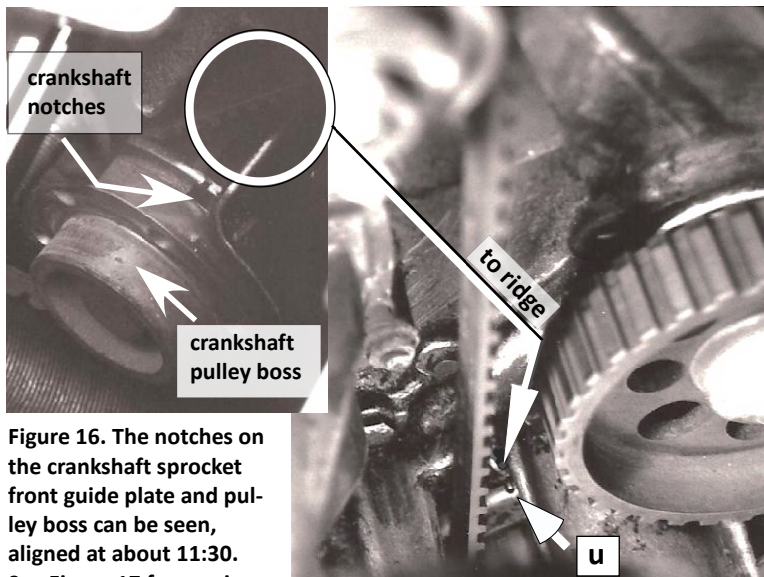

Figure 16. The notches on the crankshaft sprocket front guide plate and pulley boss can be seen, aligned at about 11:30. See Figure 17 for precise alignment.
10. As shown in Figure 16, the notch (deep squarish cut) on the **crankshaft pulley boss** and the notches (small u shape) on the **crankshaft sprocket front and rear guide plates** turn together and are at about the 11:30 position, aligned roughly with the lip (that straight edge intersecting the circle of Figure 16) of the timing belt guard. The notches are aligned precisely to the back 4-mm-long ridge of the crank seal housing on front of engine block (Figure 17).
Figure 17. Blow-up of circle of Figure 16. At back, the small u-shaped notch (u-arrow in photo) on the crankshaft sprocket rear guide plate must align to the 4-mm-long vertical ridge (long arrow) on the crank seal housing on front of engine block. Use a solvent-soaked rag to clean this area for better viewing.
13. Put some solvent on a rag and clean area back of the crankshaft rear sprocket guide plate (circle, **Figure 16**) so that you can see the 4-mm-long ridge (**Figure 17**). This is the alignment mark **C** of **Figure 9**! The u-shaped notch of the crankshaft rear sprocket guide plate aligns to this ridge.